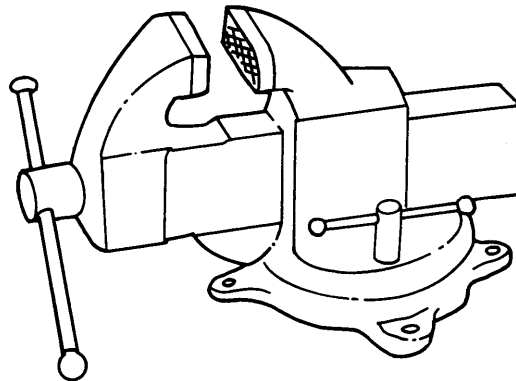

Figure 4-53. Bench Vise
a. Bench Vise. The bench vise, shown in figure 4-53, is a large steel vise with rough jaws that prevent the work from slipping. Most vises of this type have a swivel base so that the upper portion can be rotated. The bench vise is usually bolt-mounted onto a bench.